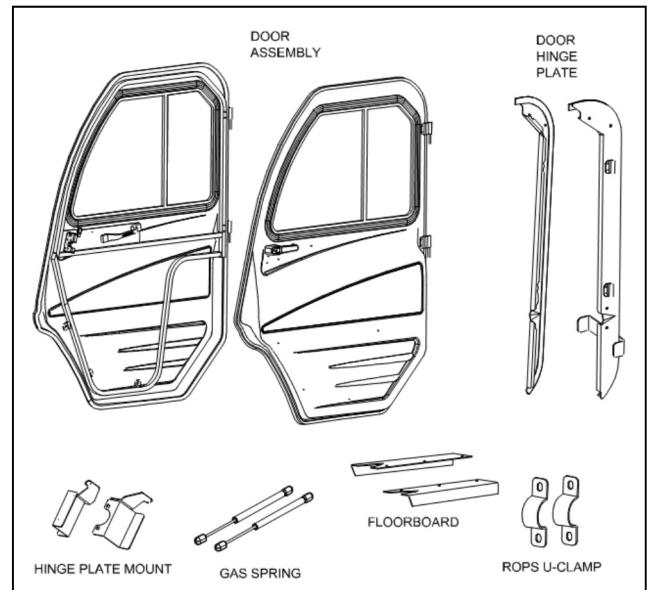
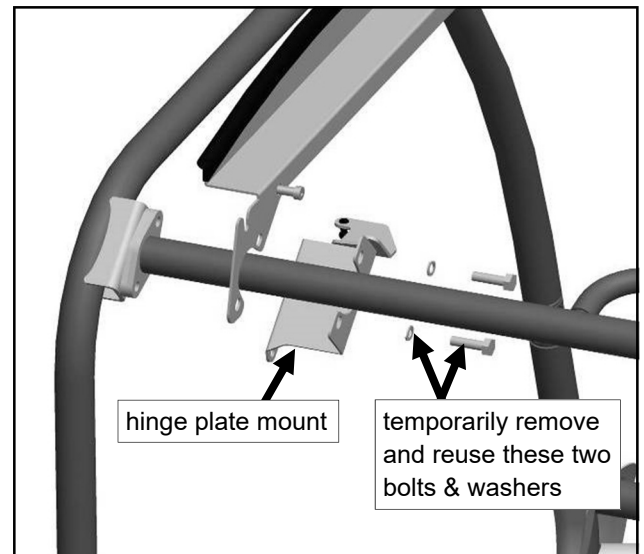

Fig. 5.1 (contents of door kit)
Fig. 5.2 (view of outside rear corner of driver's side)
5.1 Note: the hinge plate mounts shown in figure 5.1 may have already been installed in step 1.3 on page 4 during the mount installation steps. If installing a door kit at a later date than the mount kit, temporarily remove the two bolts and washers shown in figure 5.2. Loosen the bolts on the opposite side, but do not remove them. Orient and install the hinge plate mount as shown. Use caution to avoid cross threading the weldnuts. Start thread engagement by hand. Torque these two bolts to 48-55 N-m, 36-41 ft-lbs, or 4.9-5.7 kgf-m.